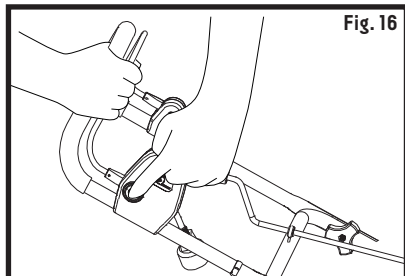

Fig. 16
2. While depressing the safety switch button, pull the ON/OFF switch lever toward you. Once the snowblower powers on, release the safety switch button and begin operation (Fig. 16). The snowblower can only be started by depressing the safety switch button first, followed by squeezing the ON/OFF switch lever; reverse operation will not start the snowblower.